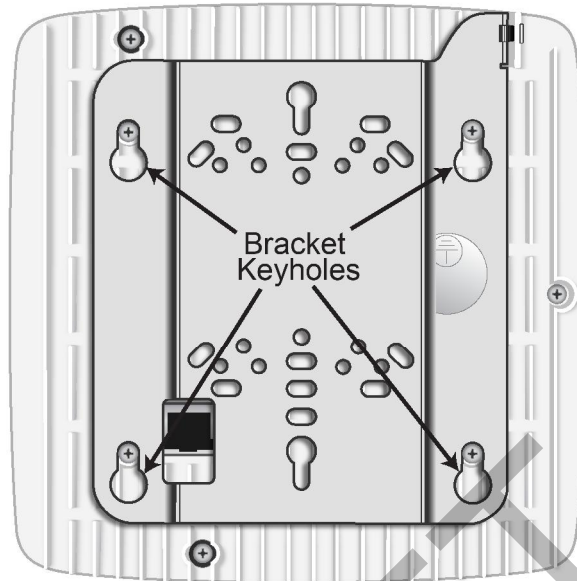

Figure 10 Radio Node Slides into Mount Bracket
- When mounting the radio node vertically, orient the bracket such that the bracket keyholes have the narrow side up as shown in Figure 10.
Attach the mount bracket to the radio node as shown in Figure 10: